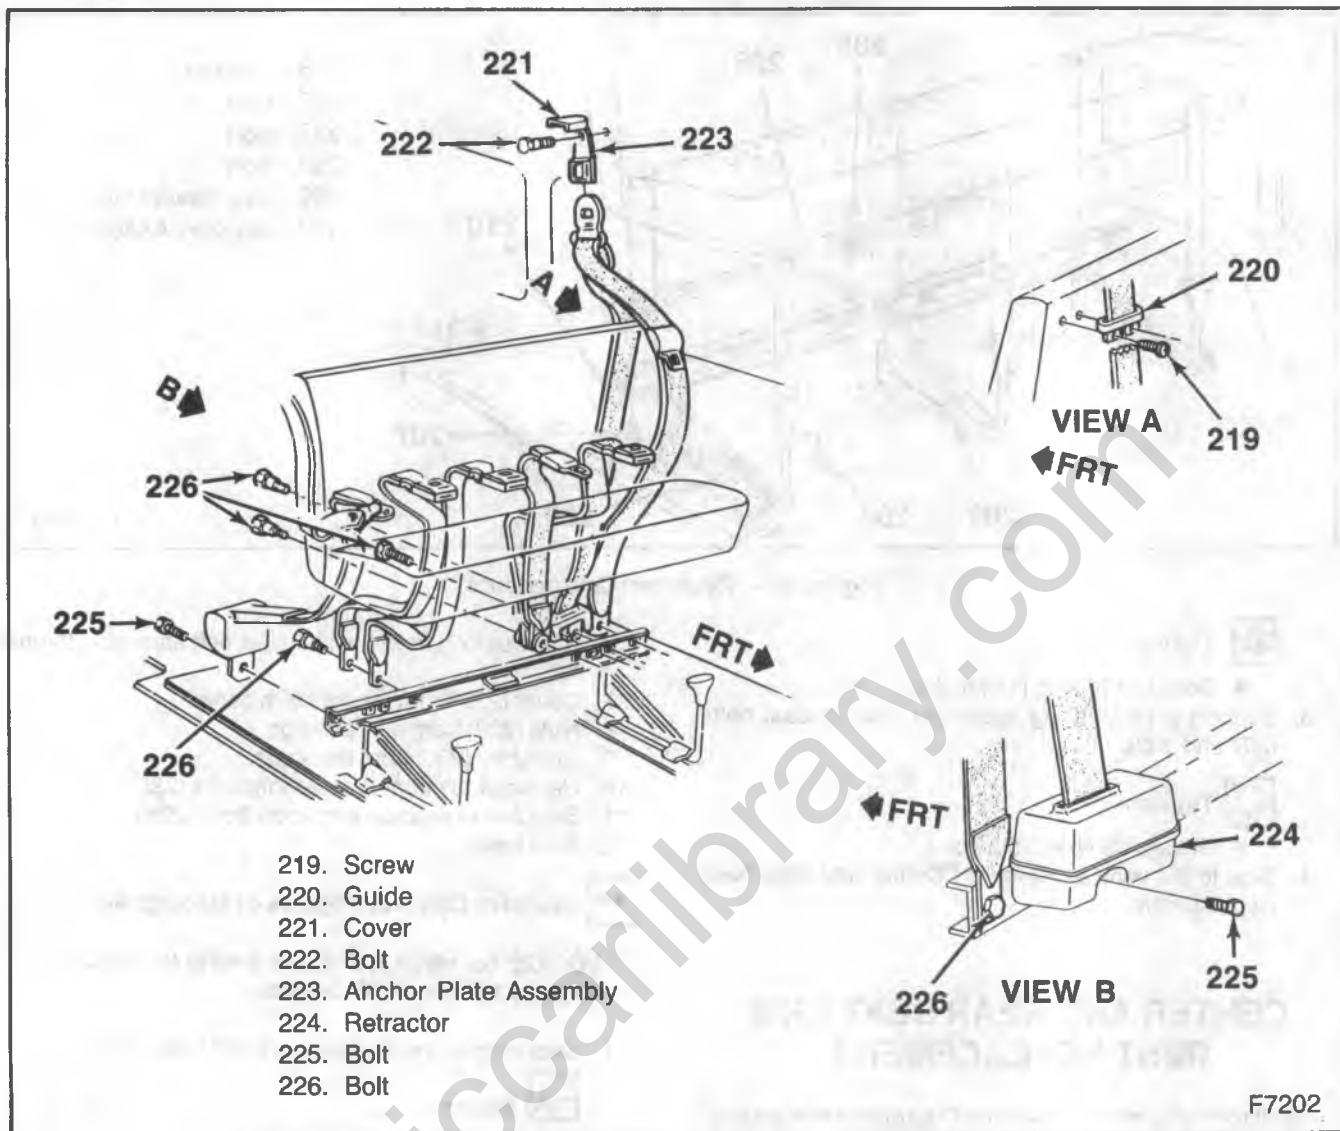

Figure 41 — Seat Belts (Intermediate and Rear Seats)
3. Support (210) and leg assembly (209) to seat bolts (207 and 208).
**Install or Connect (Figures 41 through 44)**
**Remove or Disconnect (Figures 41 through 44)**
1. Guide screws (219) from guides at the back of the seat.
2. Guides (220) from the seat back.